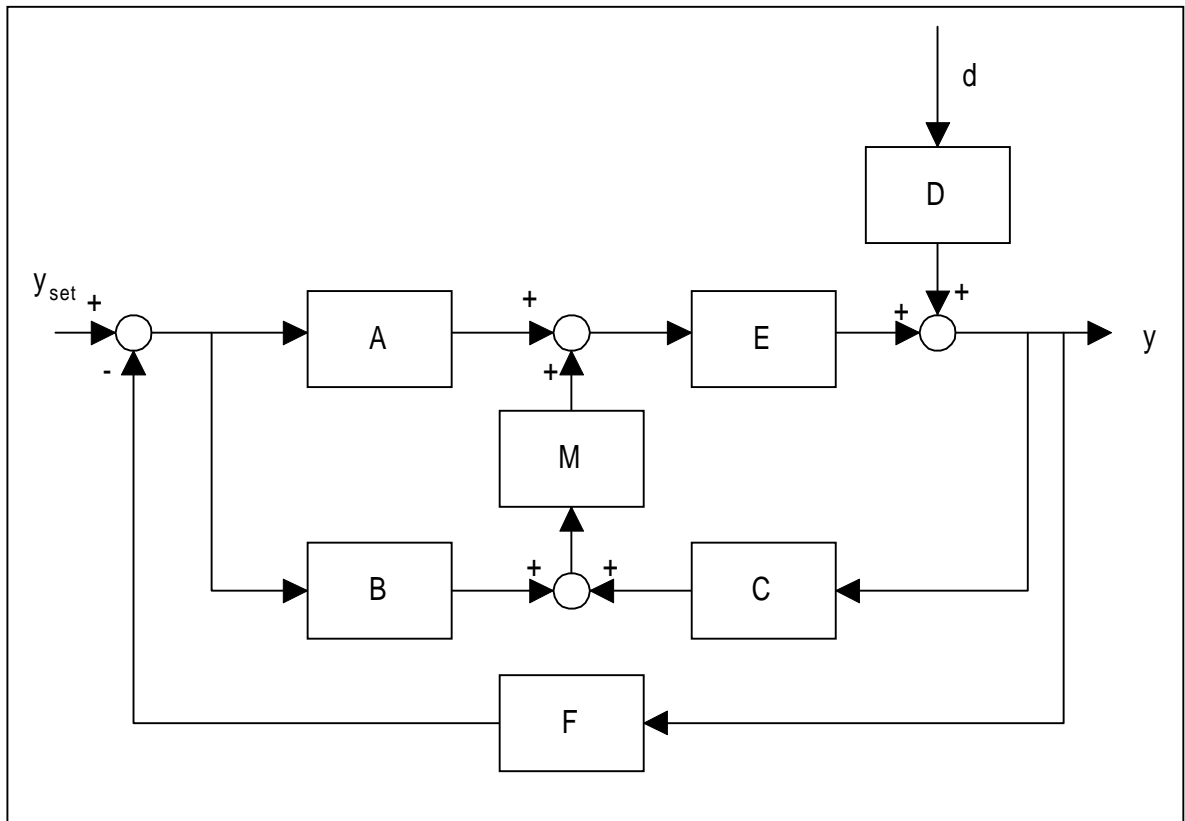
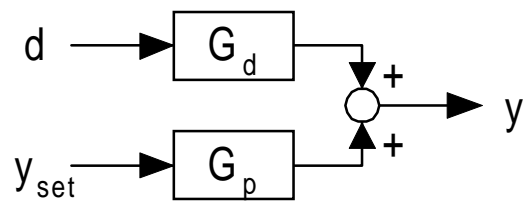

Figure 3.
Figure 4.
3. (25 pts) Reduce the transfer function block diagram given in Figure 3 to the one shown in Figure 4, i.e. obtain G_p and G_d in terms of transfer functions A, B, etc.